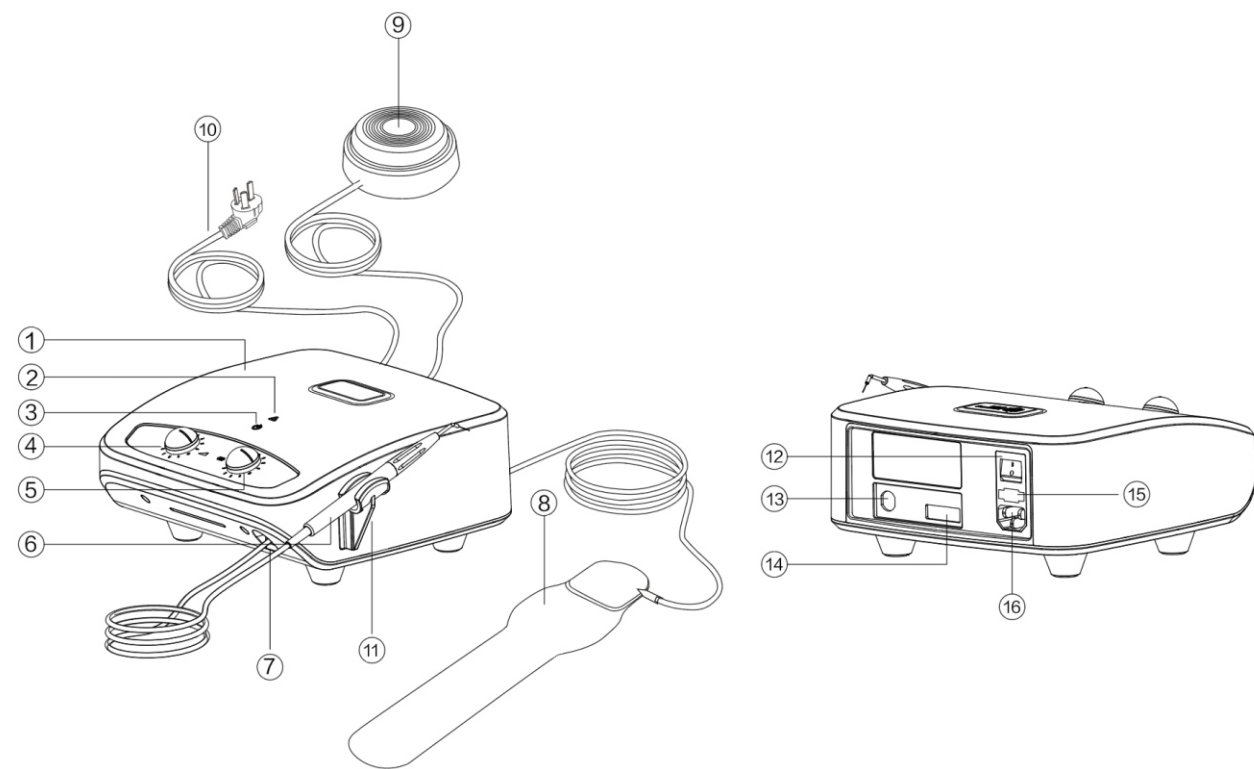

Fig.1
The device is protected by two fuses located in the power supply input connector socket (Fig.1, item 15). To change the fuses proceed as follows: